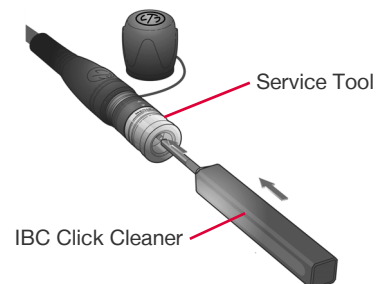

Figure 2-11: DUO Service Tool Cleaning
- Step 5. Seat IBC cleaner over a ferrule hole. **(Figure 2-11)**